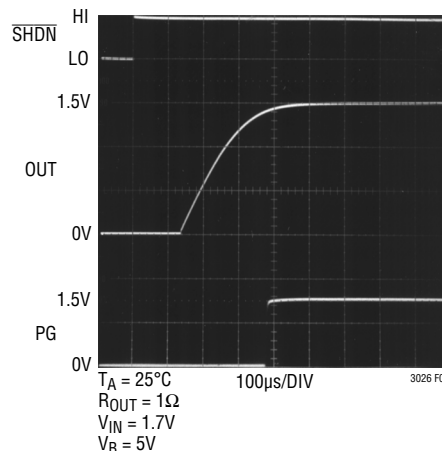

Figure 2. Soft-Start with Boost Disable
**ADJ (Pin 8):** Output Adjust Pin. This is the input to the error amplifier. It has a typical bias current of 0.1nA flowing into the pin. The ADJ pin reference voltage is 0.4V referenced to ground. The output voltage range is 0.4V to 2.6V and is typically set by connecting ADJ to a resistor divider from OUT to GND. See Figure 2.
the LDO reference voltage from 0V to 0.4V over a period of approximately 200μs, see Figure 2.